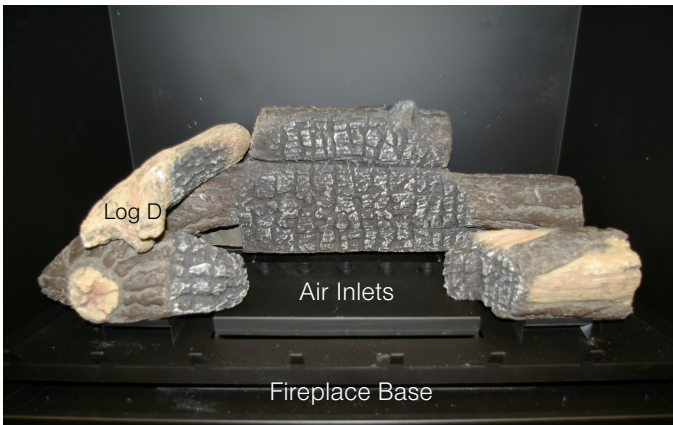

Figure 30c. Top Left Log, (Log D).
Step 5. Place Front Left log (Log D) as shown in figure 30c.